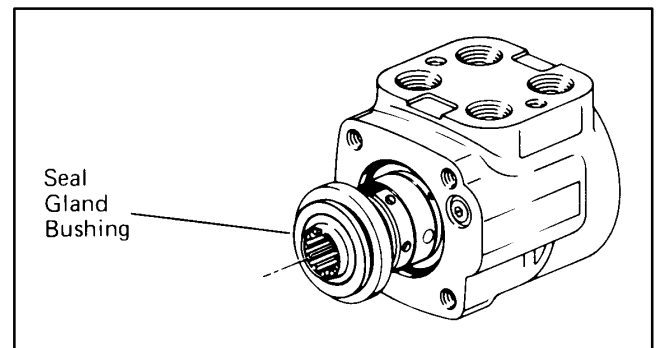

Figure 30
12. Rotate spool and sleeve until pin is horizontal. Push spool and sleeve assembly forward with your thumbs just far enough to free gland bushing from housing, see Fig. 30. Remove bushing.